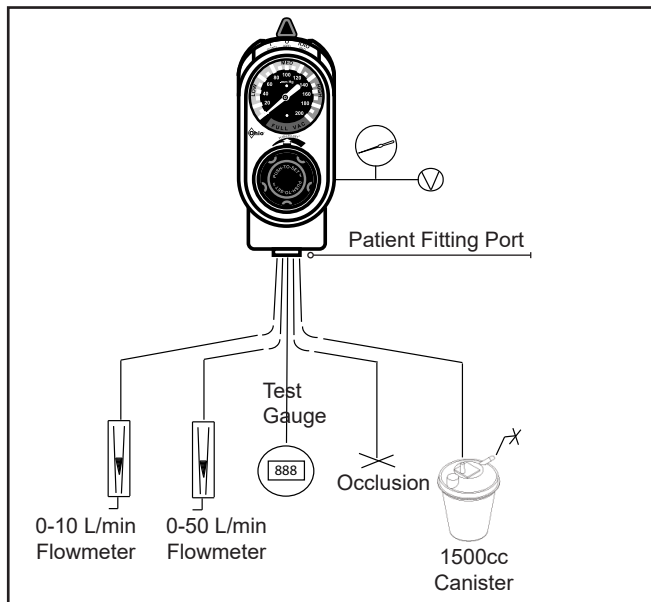

Figure 9: Service Checkout Procedure Setup
3. Occlude the fitting/patient port by inserting a plug or clamping the tubing. (See Figure 9)